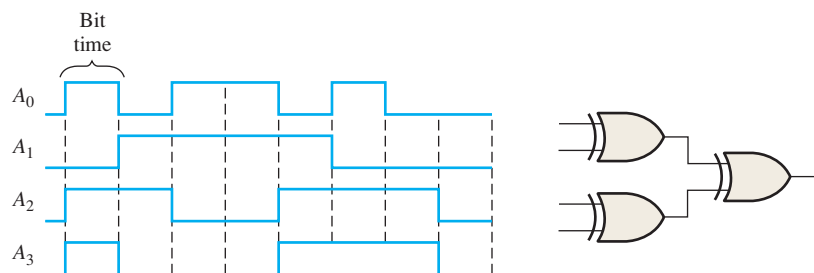

FIGURE 6-82
32. The waveforms in Figure 6-82 are applied to the 4-bit parity logic. Determine the output waveform in proper relation to the inputs. For how many bit times does even parity occur, and how is it indicated? The timing diagram includes eight bit times.